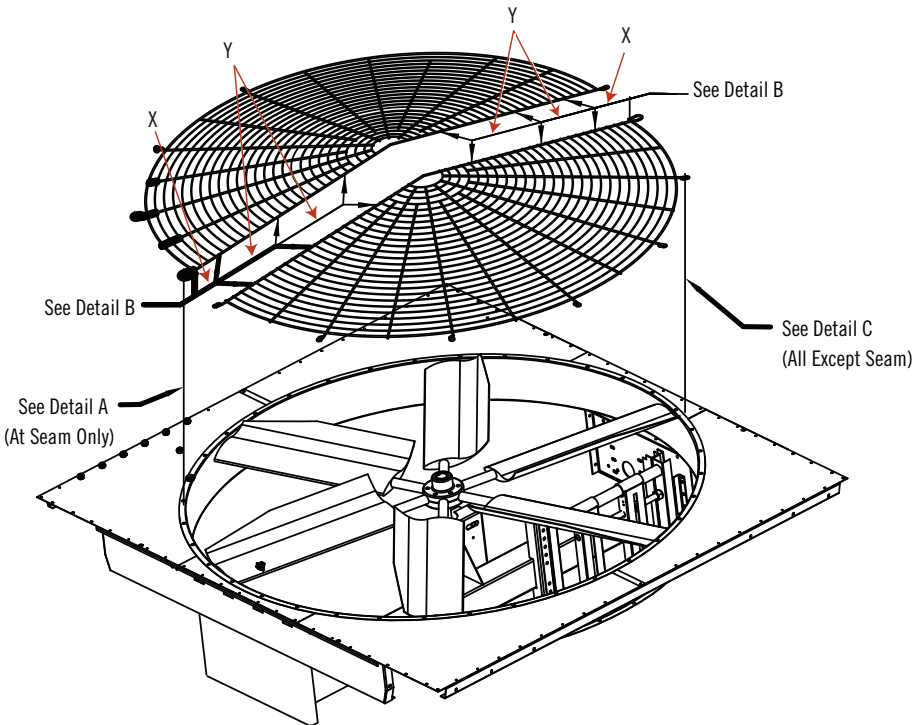

Figure 14. Two-Piece Fan Guard Assembly
NOTE: For X and Y dimension locations, refer to **Figure 14**.
1. Bolt the two halves together as illustrated in **Figure 14, Detail A**. Utilize the X and Y dimensions shown in **Table 3** to determine U-bolt spacing. Gradually tighten each nut, alternating from one to the other, until assembly is secure.
2. Mount fan guard to unit as illustrated in **Figure 14, Detail B** for the seams where the two halves join together, and **Detail C** for all others.